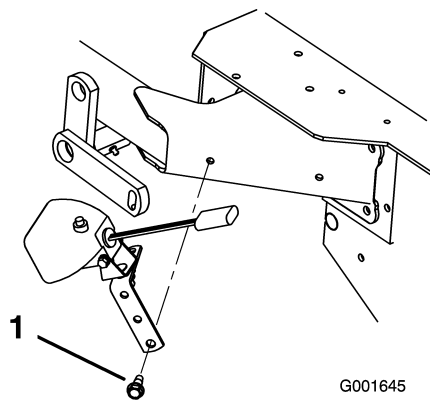

Figure 12
- Secure the side lamp and attached bracket to the frame using a bolt (3/8 x 3/4 inch) (Figure 12).